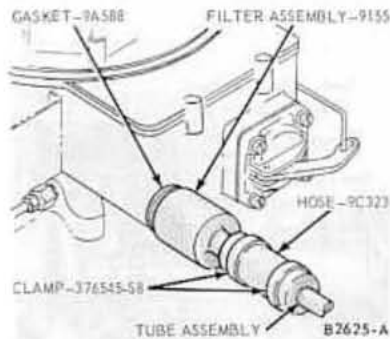

Fig. 41—In-Line Fuel Filter—All Except 427 V-8 and Lincoln
2. Loosen the retaining clamp securing the fuel inlet hose to the fuel filter (Fig. 41).